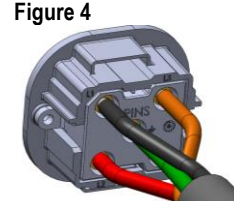

Figure 4
- d. Starting with the ground wire, insert pin(s), from the back, into the holder. Contacts will snap into place and should rotate freely when installed. (see figure 4)